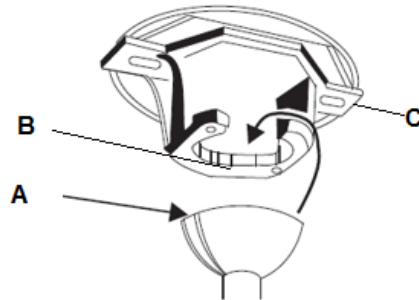

Fig. 7
Lift the fan assembly onto the mounting bracket. Ensure the registration slot (A) of the hanger ball is positioned on the stopper (B) of the mounting bracket (C) to prevent the fan from rotating when in operation. (Fig.7)